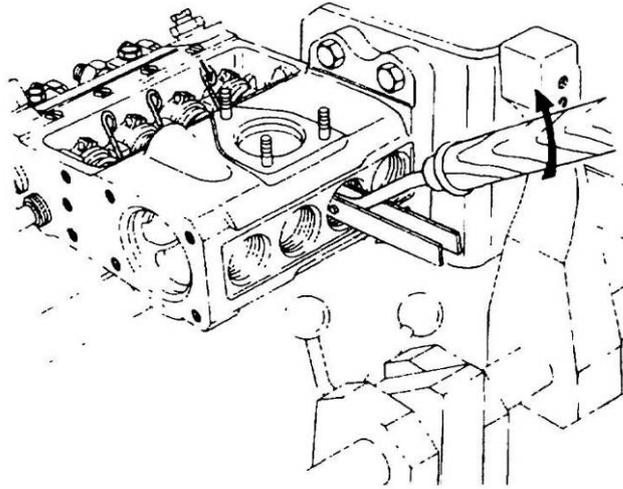

Figure 81 Installation of the Tappet Holders
- j. Using special tool 157921-0120, slowly compress each plunger return spring while aligning the plunger control arms with the slots in the control sleeve. When each spring is fully compressed, install the tappet holders. Ensure that each tappet holder is positively installed into the hole in the tappet and slowly release the spring compressor (Figure 81).
- h. Remove the bolts securing the side cover plate to the injection pump and remove the cover plate. Using special tool 157916-5420, rotate the camshaft until a plunger return spring is compressed (the plunger is at TDC), then install the tappet holder (service pin) special tool 157931-2500 into the hole. Secure the remaining tappets in the same manner (Figure 81).